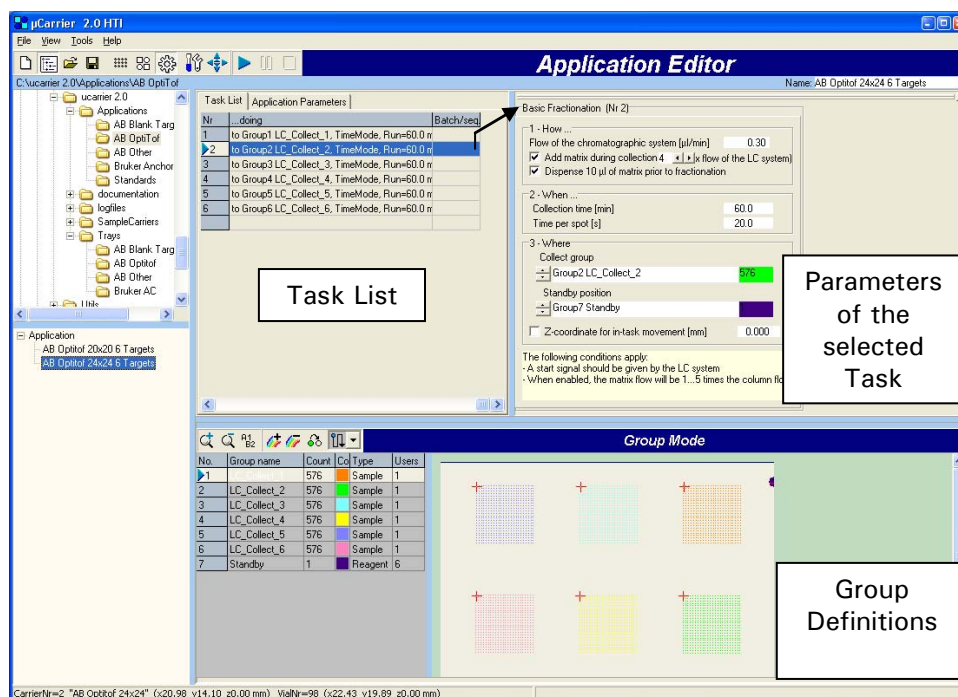

FIGURE 2-13 Application Editor - Application loaded
c) Select the desired application, and then double click to load this application. All parameters of this task are then loaded in the *Application Editor* and in the *Tray Editor* (FIGURE 2-13).
- Double-click on the application you want to run in the browser window (FIGURE 2-13) or use the **Open file** button in the main menu toolbar.